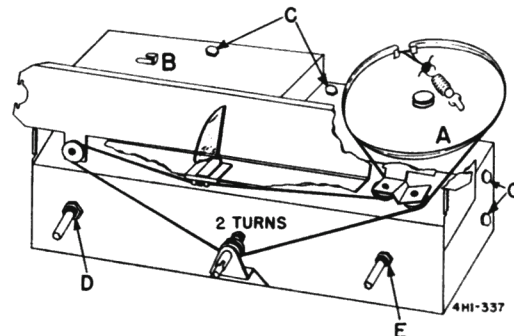

Figure 4-9. 4H1 Radio Tuner Showing Chassis Cover and Dial Assembly.
For alignment of IF slug adjustments, it will be necessary to disassemble the radio chassis from the escutcheon and housing and also remove the chassis cover and dial scale assembly. See figure 4-9.
5. Position dial drum as shown in figure 4-9; unhook spring at "A" and, keeping tension on dial cord, hook it to tab "B".